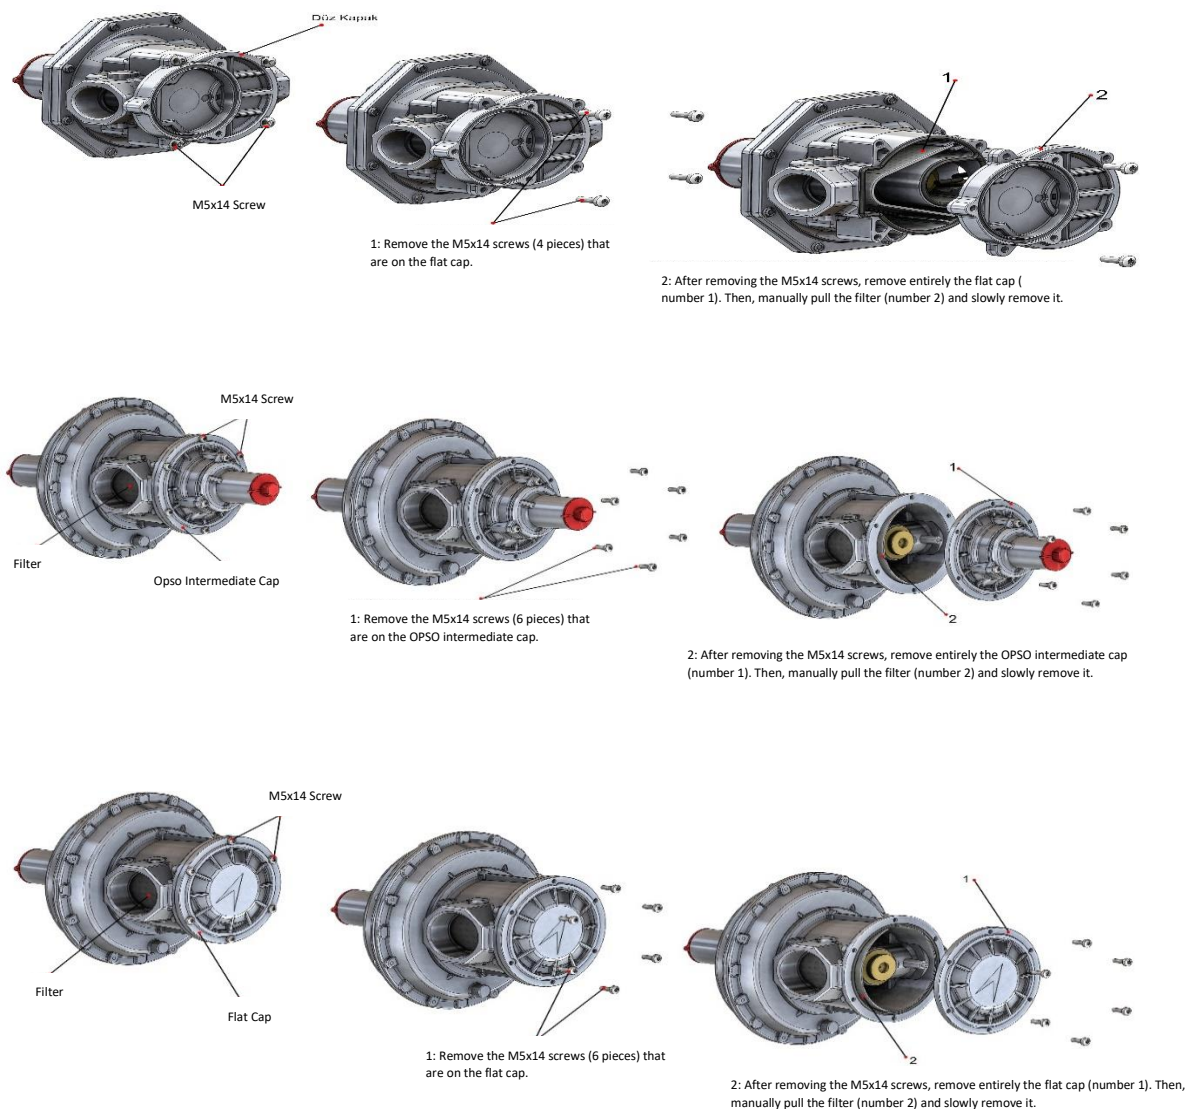

Figure 6
- 5- With a tolerance range of $\pm 5^{\circ}\text{C}$, install the product in the appropriate assembly position, horizontally or vertically like it is indicated on Figure 6. However, you should choose to assemble the product in a way that the upper hatch is vertical and faces upwards.
The Inlet Filter inside the product (see Figure 6);